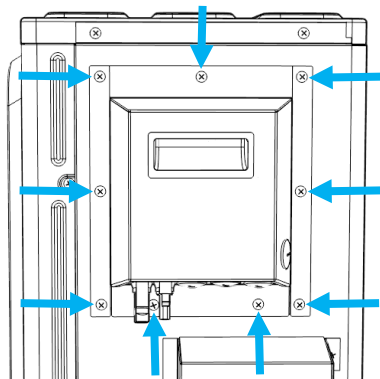

Figure 8.1
1. Remove the nine screws and the electrical wiring cover from the unit. See figure 8.1.